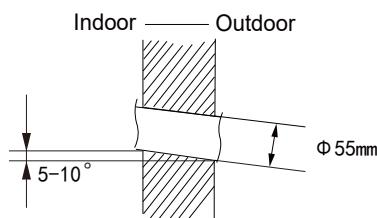

Fig.2
(2) Open a piping hole with the diameter of $\Phi 55\text{mm}$ on the selected outlet pipe position. In order to drain smoothly, slant the piping hole on the wall slightly downward to the outdoor side with the gradient of 5-10°.(As show in Fig.2)